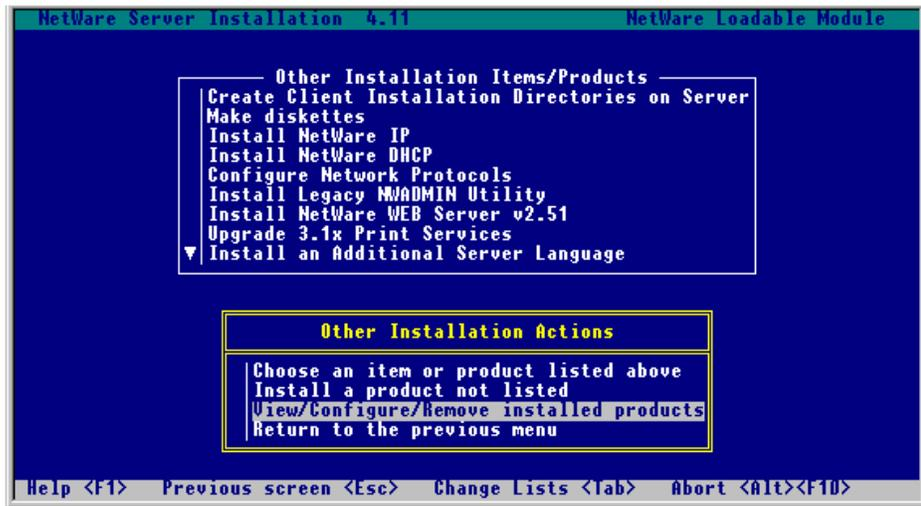

Figure 3-14. Install Products Screen
8. Press the **ENTER** key to return to the Install Products screen (Figure 3-14). You may confirm the drivers are installed by highlighting **View/Configure/Remove installed products** and then press the **ENTER** key.